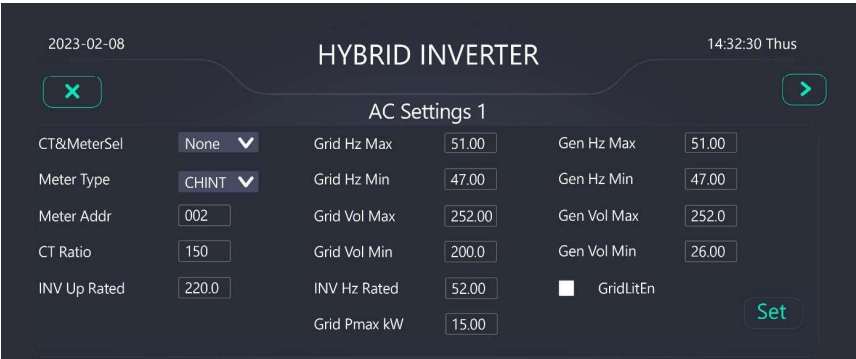

Figure 3.15 AC Setting 1
Bat Mode: Select one of "Lithium", "Use Bat V" or "Use Bat %" for all the setting. This will affect ②,③ in that Figure 3.12 and ②,③ in that Figure 3.15 settings below.
b. Part ② is the maintenance setup for lithium batteries or battery SOC control
- **TempCorrEn**, When this option is checked, the temperature compensation of the float or average charge in ④ will take effect.
Click "Grid Setting" to set grid related parameters, as shown in Figure 3.15, You can set the meter or CT access type, meter model and communication address, CT ratio, voltage frequency upper and lower limits, GEN interface type, inverter voltage amplitude, Grid voltage amplitude range, Grid
Click the CT Ratio data box in the grid setting interface in Figure 3.15 to set the CT transformation ratio. When the model of transformer is 100:50mA, the interface value shall be filled with 100. If the transformer is 150:50mA, the value should be 150.